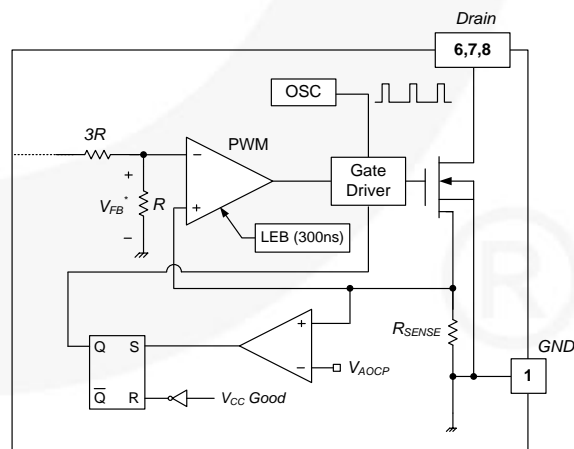

Figure 23. Abnormal Over-Current Protection
4.2 Abnormal Over-Current Protection (AOCP): When the secondary rectifier diodes or the transformer pins are shorted, a steep current with extremely high di/dt can flow through the SenseFET during the minimum turn-on time. Even though the FSL137MRIN has overload protection, it is not enough to protect the FSL137MRIN in that abnormal case; due to the severe current stress imposed on the SenseFET until OLP is triggered. The internal AOCP circuit is shown in Figure 23. When the gate turn-on signal is applied to the power SenseFET, the AOCP block is enabled and monitors the current through the sensing resistor. The voltage across the resistor is compared with a preset AOCP level. If the sensing-resistor voltage is greater than the AOCP level, the set signal is applied to the S-R latch, resulting in the shutdown of the SMPS.